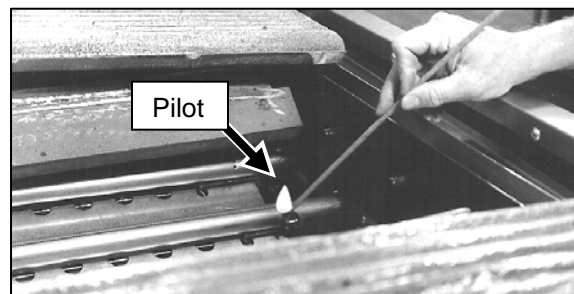

Fig. 3
LIGHTING THE GAS PILOT (Fig. 3)
2. Remove the Top Grates. Turn the incoming main gas supply valve on. Light pilots using a taper (Fig. 3).